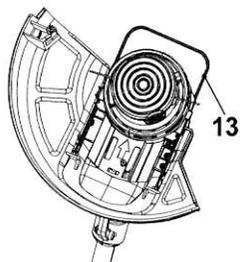

Fig. 11, storage position
2. Push the plant protector (13) in for transport and storage (Fig. 11).